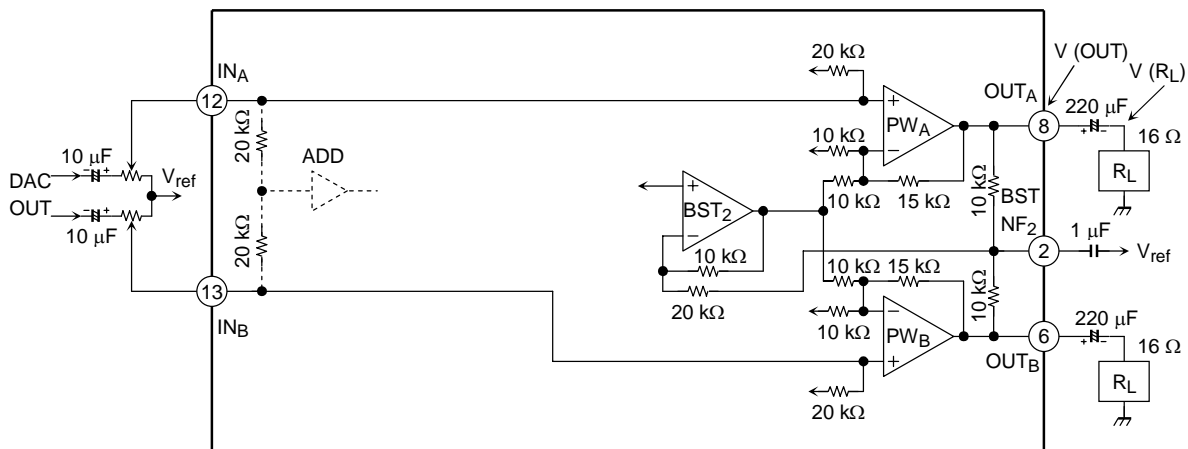
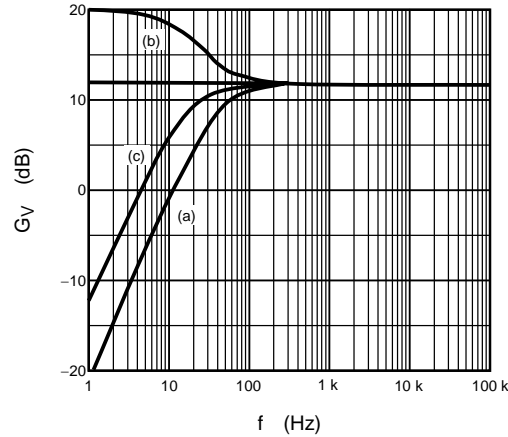

Figure 3 Low-Pass Compensation System Diagram
Figure 4 Power Amplifier Frequency Characteristics
In C-couple type power amplifiers, it is necessary to give the output condenser C a large capacity to flatten out the frequency characteristics to the low frequency band (this is because the loss in the low frequency bandwidth becomes larger due to the effect of the high-pass filter comprising C and R_L). Particularly when the headphone load is approximately 16Ω and an attempt is being made to achieve frequency characteristics of $\pm 3 \text{ dB}$ at 20 Hz, a large capacity condenser of $C = 470 \mu\text{F}$ is required. Bearing this situation in mind, a low-pass compensation function was built in to the TA2131FNG, and while reducing the capacity of the output coupling condenser, almost flat ($\pm 3 \text{ dB}$) frequency characteristics in all audible bandwidths (20 Hz to 20 kHz) have been achieved. Fig.3 shows the low-pass system diagram, and Fig.4 shows the frequency characteristics at each point. In Fig.4, (a) represents the status lost by the low-pass as a result of the high-pass filter comprising the headphone load ($R_L = 16 \Omega$) and the output coupling condenser ($220 \mu\text{F}$) in the C-coupling system.
The low-pass component alone is extracted from the composite signal of PWA/PWB output, and that frequency signal is fed back to PWA/PWB once more via the inversion amplifier, thereby making it possible to increase the gain only of the low-pass component. The frequency characteristics of the power amplifier output V (OUT) in this state are shown in Fig.4 (b). In practice they are the frequency characteristics (c) viewed from load terminal V (RL), and the low-pass is compensated relative to the state in (a).